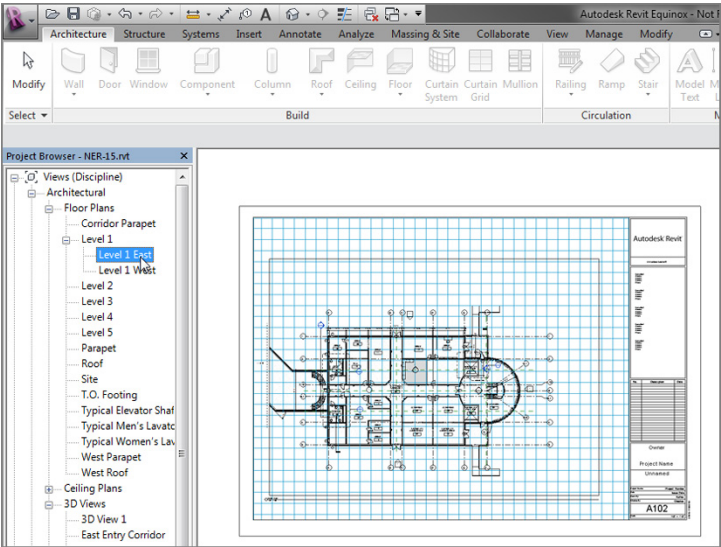

FIGURE 14.6: Adding another sheet
2. Pick a point on the sheet to place the view aligned with the guide grid (see Figure 14.6).